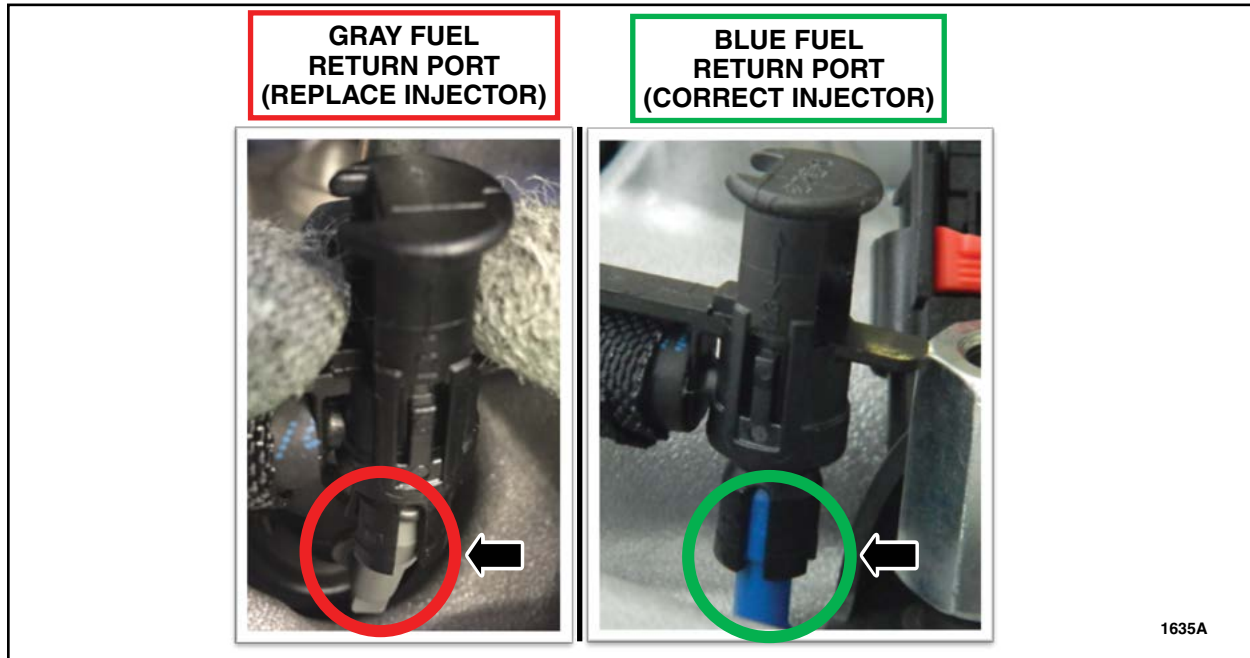

FIGURE 1
4. Inspect all fuel injectors for the presence of a gray fuel return port. See Figure 1.